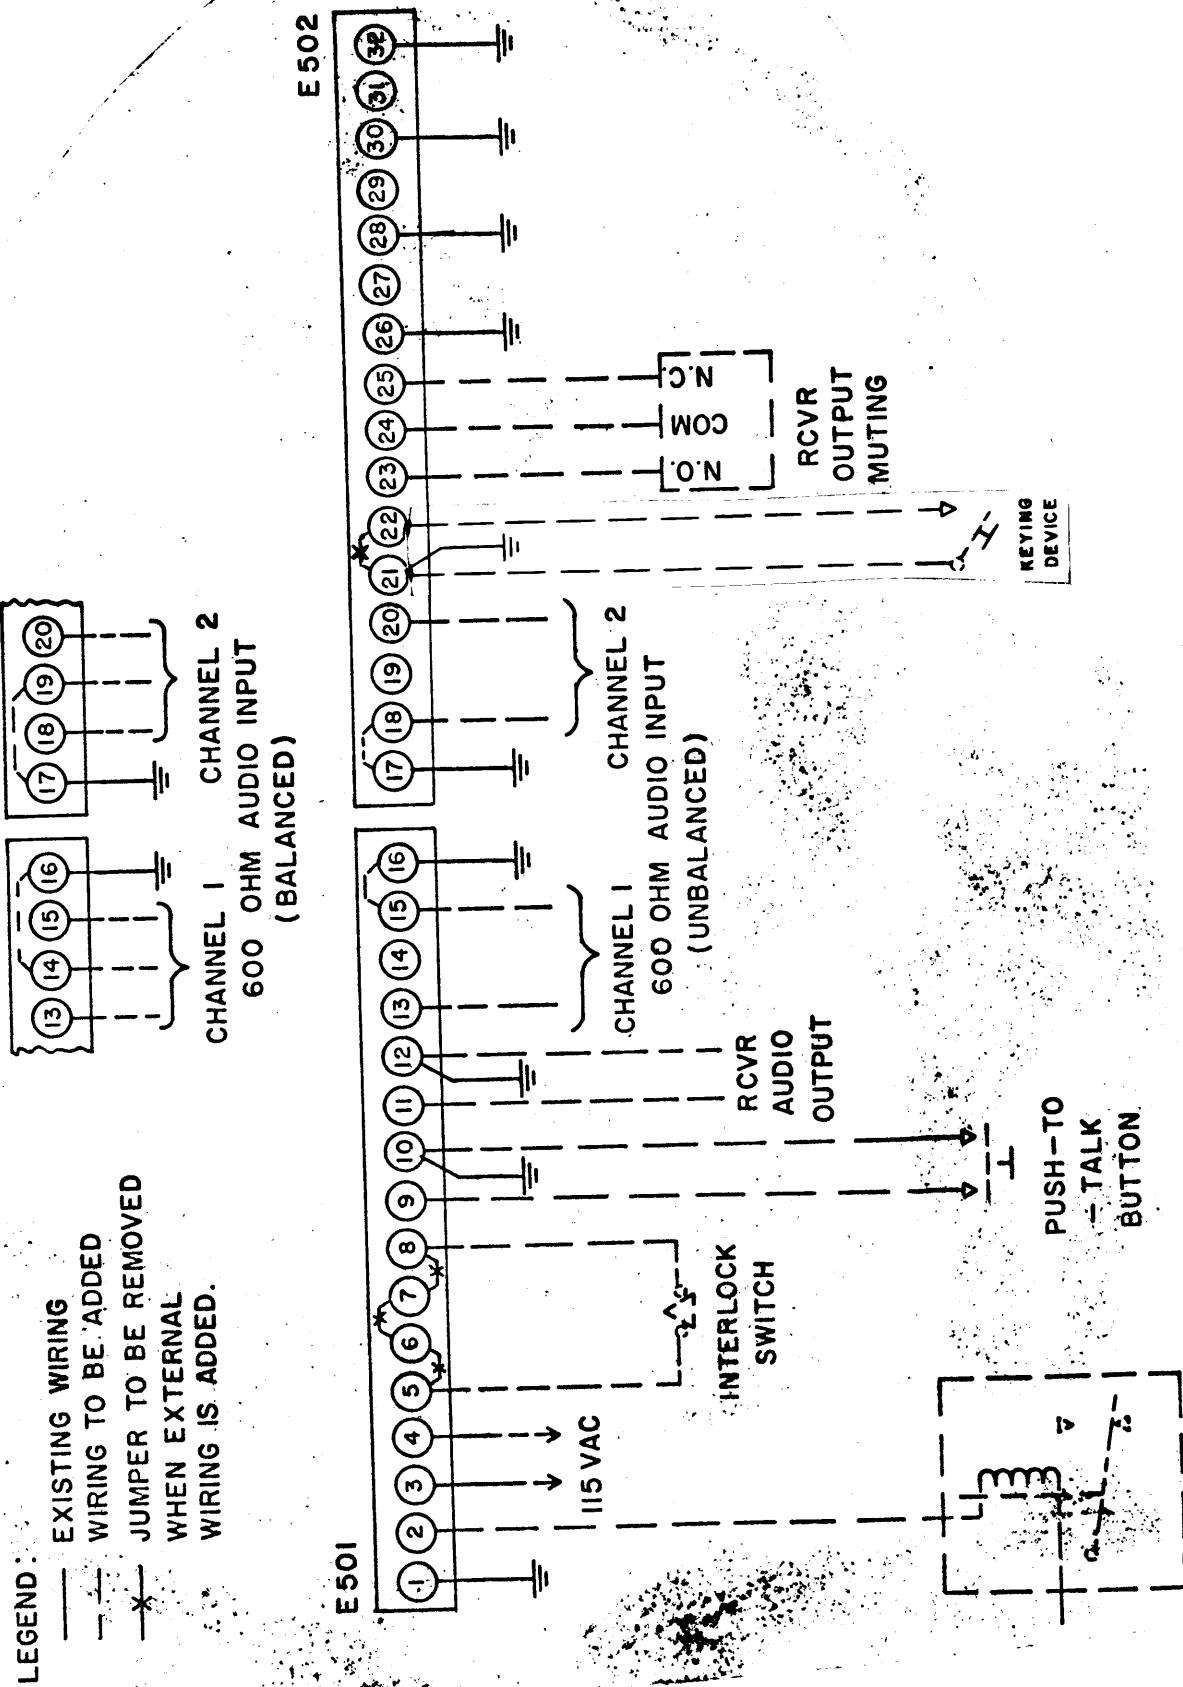

Figure 2-6. Connection Diagram, External Equipment to SBT-IKA6.
b. INSTALLATION OF MODULAR UNITS. - Refer to figure 2-6 for information regarding cabinet location of all modular units.
(1) GENERAL. - Auxiliary Power Panel APP- is a standard modular unit present in all SBT-1K transmitters. Besides functioning as a distributor for line voltage, the APP- provides two terminal blocks to facilitate connection of external equipment to transmitter. Except for the MIKE connection on Exciter Unit SBE, all external connections may be made at terminal blocks E501 and E502 located at the rear of Auxiliary Power Panel APP- . Figure 2-6 and the following paragraphs illustrate the possible external connections to SBT-1KA6. Schematic diagrams in the individual modular-unit manuals should be used as an aid for tracing wiring.
(2) REMOTE TRANSMITTER PLATE RELAY - Terminals 1 and 2 of E501 are provided for attachment to the coil of a relay supplying plate voltage to an additional stage of RF amplification external to the SBT. This enables control of the entire transmitter at the SBE by means of the XMTR OFF/ON switch. such a relay is sometimes employed in transmitter systems of which SBT is a sub-assembly.
(3) REGULATED 115VAC - Terminals 3 and 4 are available for an extension source of the regulated 115VAC used in the PS-4A unit.
(4) EXTERNAL INTERLOCKS - Terminals 5, 6, 7 and 8 are provided for con-
(5) PUSH-TO-TALK SYSTEM - Terminals 9 and 10 are provided for a push-to-talk button attachment. A push-to-talk system may be used in lieu of or along with the voice-operated (VOX) circuit available in the SBE-8 unit.
(6) RECEIVER SQUELCH - Terminals 11 and 12 are provided for the attachment to receiver audio output, if receiver "squelch" is desired when using the VOX (voice-operated) feature in the SBE-8 unit. Receiver squelch is used in order to prevent sound from a nearby receiver or other source from automatically actuating the VOX circuit.
(7) AUDIO INPUT - CHANNELS 1 and 2 - Terminals 13 through 20 are provided for the attachment of two separate sources (or channels) of intelligence in the form of 600-ohm audio. Figure 2-6 illustrates connections for either balanced or unbalanced inputs.
(8) KEY LINE - Terminals 21 and 22 of terminal block E502 are provided for the attachment of a keying device in CW mode of transmission. Pushing down on key grounds the cathode circuit of first r-f amplifier V118 in Exciter Unit (SBE-8) enabling it to operate.
(9) RECEIVER MUTING - Terminals 23, 24 and 25 are provided for a receiver muting feature. The purpose of this feature is to automatically disable the receiver when the transmitter is sending and enable it when the transmitter is in OFF or STANDBY condition. This automatic feature may be had along with a common antenna by the addition of a Tone Intelligence Unit, Model TIS-3A and modifications of interconnections. The addition of the TIS-3A unit allows this system to operate FSK and FAX and provides circuitry to CW Key the input applied to the SBE (See paragraph 2-3 f). The other modifications are rewiring the existing equipment. The system described in paragraphs 2-3 h and 4-2 b is a manually operated T/R control system.